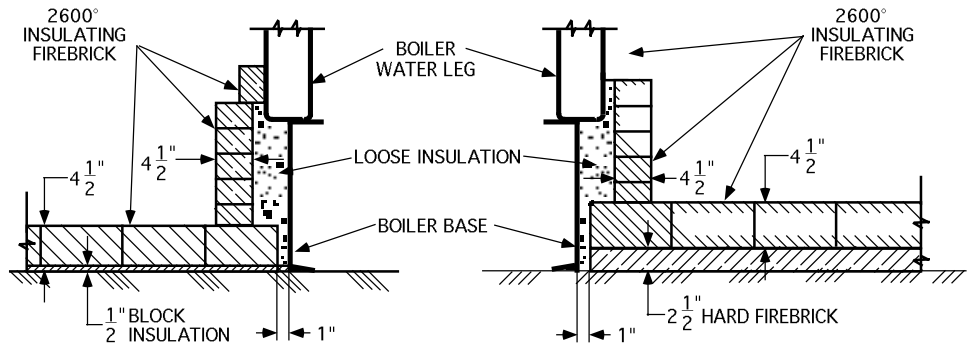
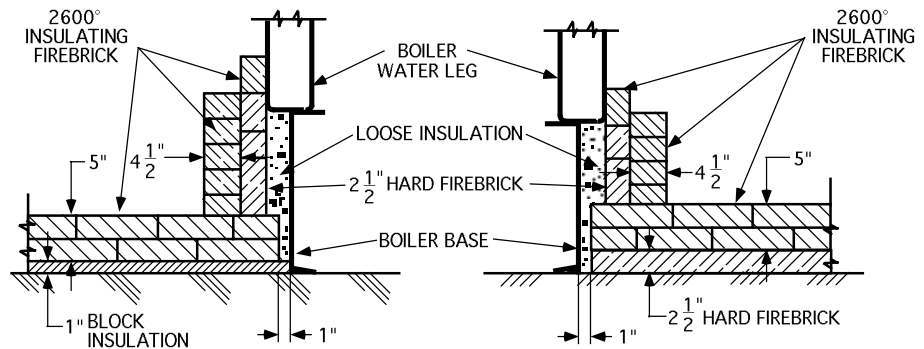

Figure 1: Typical Floor and Wall Construction
Figure 2: Typical Floor and Wall Construction
□ For conventional firebox boilers refer to Table 2 and Figure 1 for recommended combustion chamber dimension and typical floor and wall construction. If the recommended dimensions cannot be provided, make length as long as possible and increase the width to maintain the floor area. Where the floor area must be reduced, use the optional construction shown in Figures 2 or 3.
- When raising the floor, maintain sufficient firebox volume to limit the heat release per cubic foot to 50 MBH or less. Use the entire floor as a combustion chamber and cover any water leg base to 6" from the bottom to avoid firing areas filled with sediment. Floor construction should conform to Figures 1, 2 or 3.